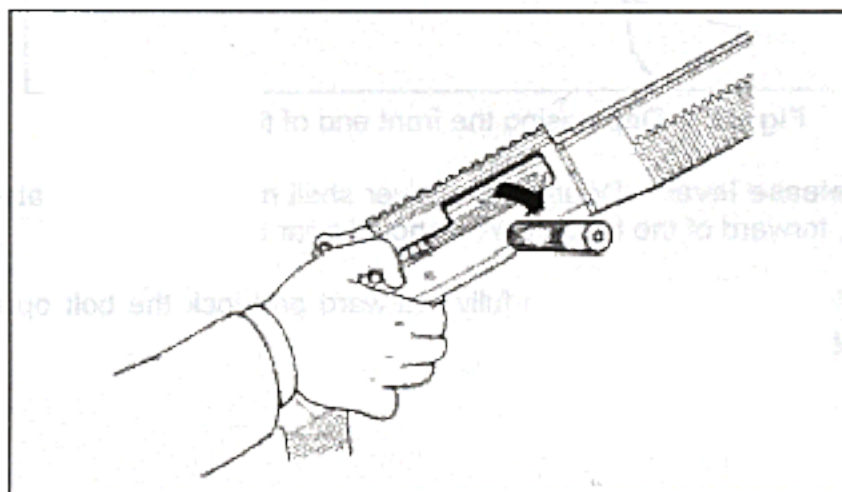

Figure 2. Removing the chambered round
3. **Remove the chambered round** -- Remove the chambered round and/or the round on top of the shell carrier by pulling the bolt handle fully rearward multiple times to eject the round(s) (Figure 2).